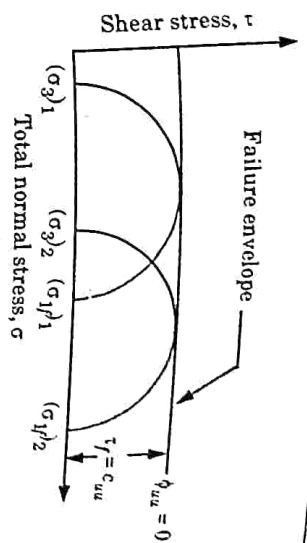

Fig. 4.20.1.
2. In this test a minimum of three soil samples are subjected to different confining pressures σ_3 and then loaded to failure. The resulting Mohr's envelope will be as shown in Fig. 4.20.1.
3. The Fig. 4.20.1 is drawn with total stresses and hence, defines total stress parameters. The failure envelope is horizontal and shear strength is given by,